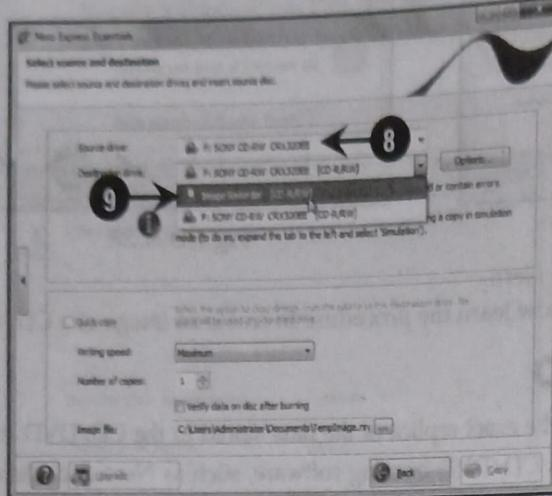

Fig.HD-8.30
8. The Select source and destination page of the Nero Express Essentials wizard appears (Fig.HD-8.30).
8. Select a source drive from the list box beside the Source drive option. In our case, we have selected F: SONY CD-RW CRX320EE [CD-R/RW] (Fig.HD-8.30).
9. Select a destination drive from the list box beside the Destination drive option. In our case, we have selected Image Recorder [CD-R/RW] (Fig.HD-8.30).